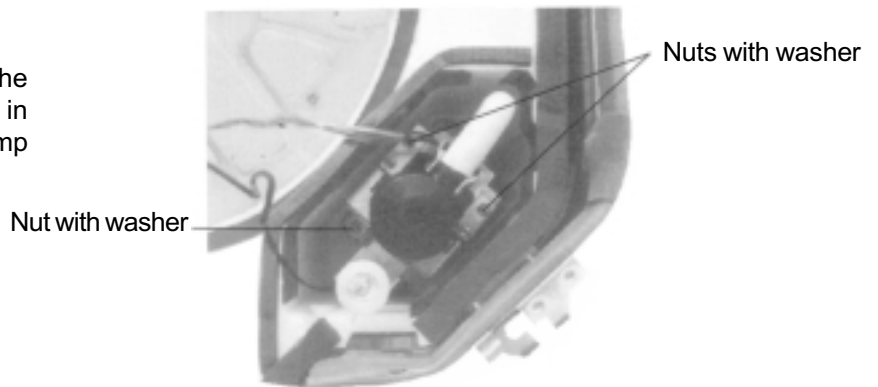

Figure 20
- ⑩ Disassemble the pump parts.
- Use sleeve spanner to unscrew the three nuts with washer as shown in figure 20, and pull upwards the pump parts and remove them.